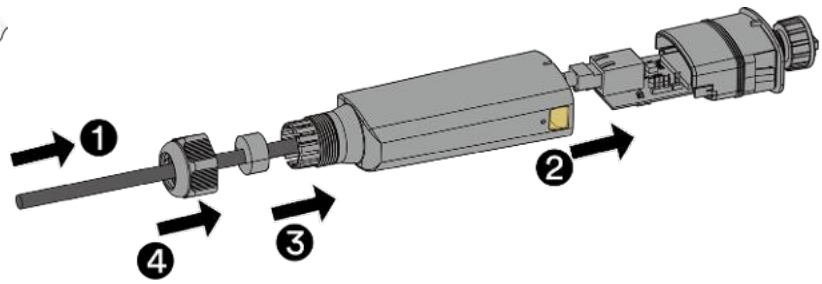

Fig. 46. Feed the LAN cable through the housing and connect the LAN plug
3. Feed the LAN cable through the housing of the communication unit and insert it into the plug in the LAN port on the circuit board. (see Fig. 46).